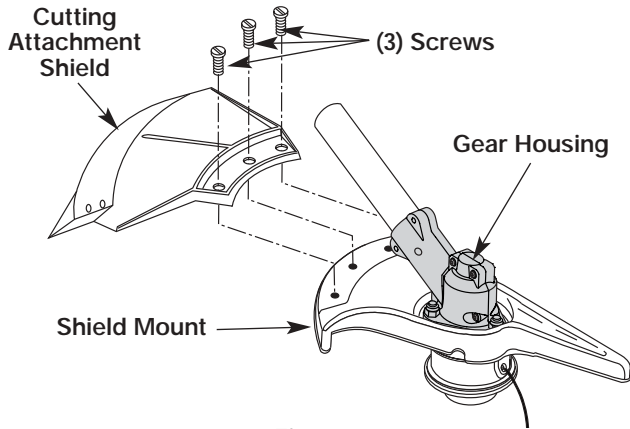

Figure 7
Remove the cutting attachment shield from the shield mount by removing the three (3) screws with a flat blade screwdriver. See Figure 7. Store parts for future use.
Install the cutting attachment shield on the shield mount by inserting the three (3) screws into the shield mount. Tighten securely with a flat blade screwdriver. See Figure 7.